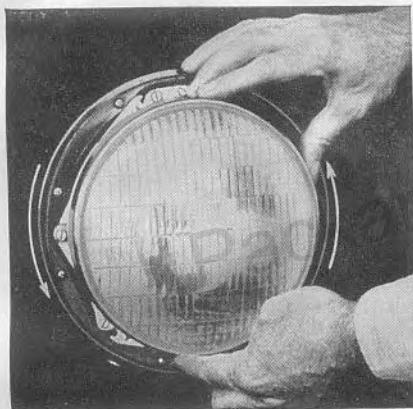

Fig. 29—Turn Retainer Ring Slightly to Release
3. Remove retaining ring as shown in Fig. 29 by rotating to the left, allowing the reflector unit to be removed.